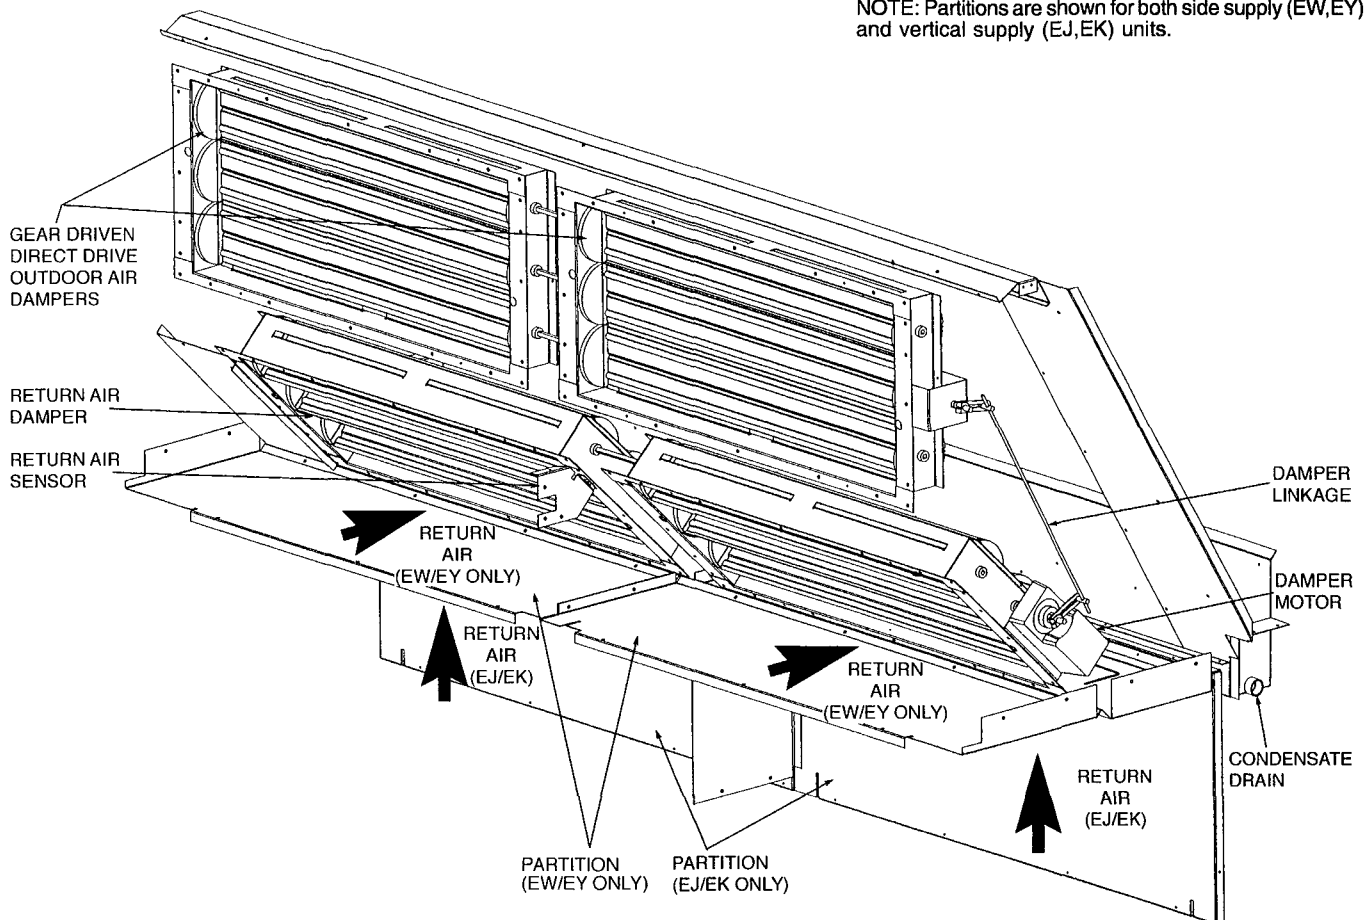

Fig. 33 — Economizer Details
2. Remove the economizer inlet filters from the bottom of the right hand economizer hood. See Fig. 21. See Fig. 33 for economizer details.